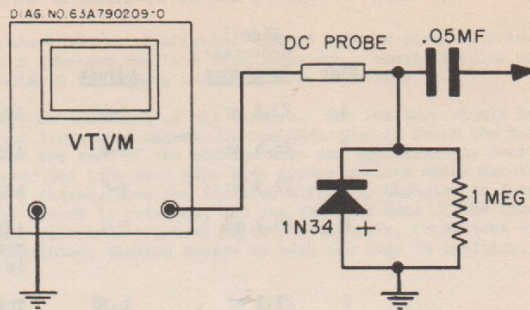

FIGURE 6. ELECTRONIC VOLTMETER CONNECTIONS
2. Connect the electronic voltmeter and germanium crystal rectifier, as shown in Figure 6, to the plate of the second video amplifier, V-16 (6AC7, pin 8). Use the lowest voltage scale on the meter.